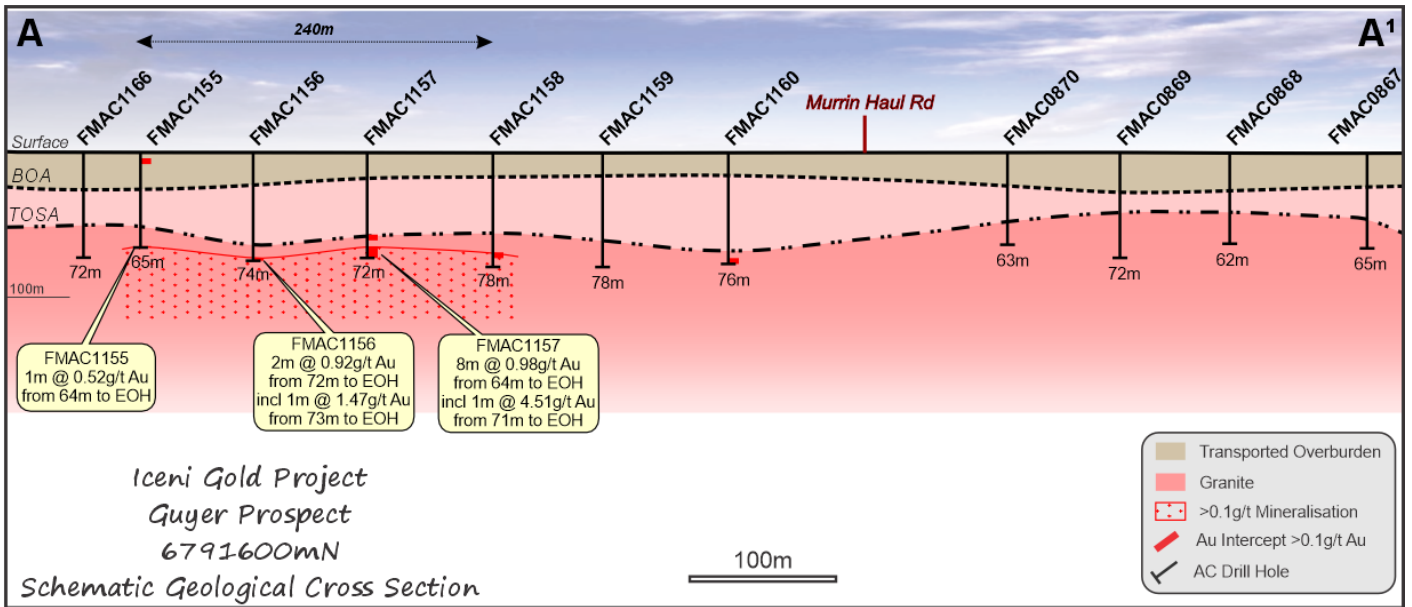

Figure 4 Schematic drillhole cross-section 6791600mN
The transported cover was consistent with interpretation with the western side of the program containing less transported cover and puggy clays (Figure 4). The eastern end of the drill traverses contained deeper transported puggy clays towards the greenstone granite contact. The northern most line clearly displays this, with the eastern most hole containing down to 39m of transported clays while the westernmost hole contained only 9m of transported cover.
Significantly, most of the holes intersected a thick interval of leached (white) saprolite above the partly weathered granite. This leached zone tends to be completely devoid of mineral geochemistry and, when added with the transported cover, is a considerable thickness of barren material masking the fresh bedrock (Figures 4 and 5).
**Figure 3** Guyer North drillhole plan and geological map showing the 2024 AC drill holes, significant gold results and the interpreted >0.1 g/t Au bedrock gold anomaly. Refer to Figures 4 and 5 for drillhole cross-sections AA1 and BB1.